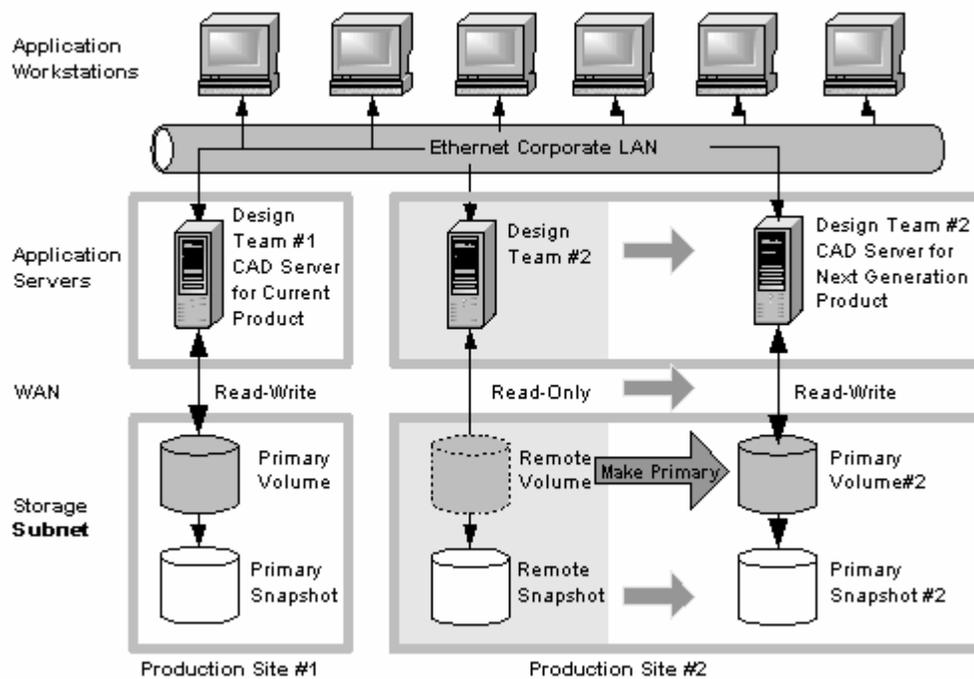

Figure 22 Configuration after data migration
- Figure 22 on page 57 shows the migration of data after converting a remote volume into a primary volume.